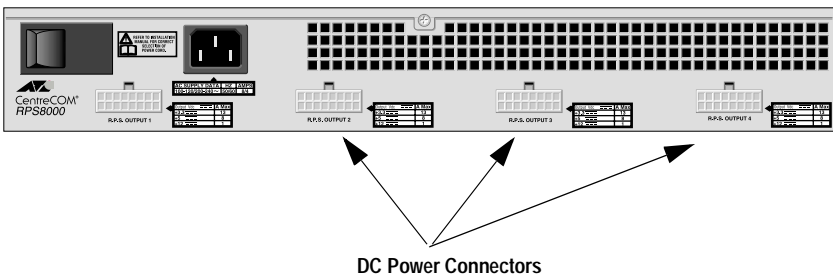

Figure 6 DC Connector Locations
3. Attach one end of the provided DC power cord to the connector on the back panel of the AT-RPS8000 unit, directly behind the faceplate you just removed. (Refer to Figure 6 for the DC connectors.)